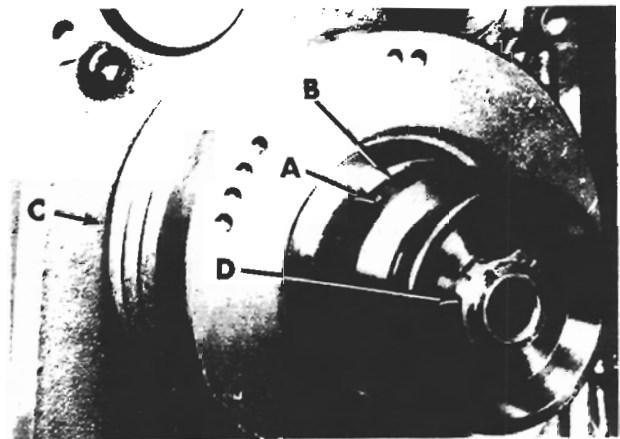

Figure 36
28. Install drive coupling (B, fig. 36).
29. Install ball, spring and two set screws (A) in drive coupling.
30. Install retainer (D).
31. Place spindle belts over spindle pulley (C).